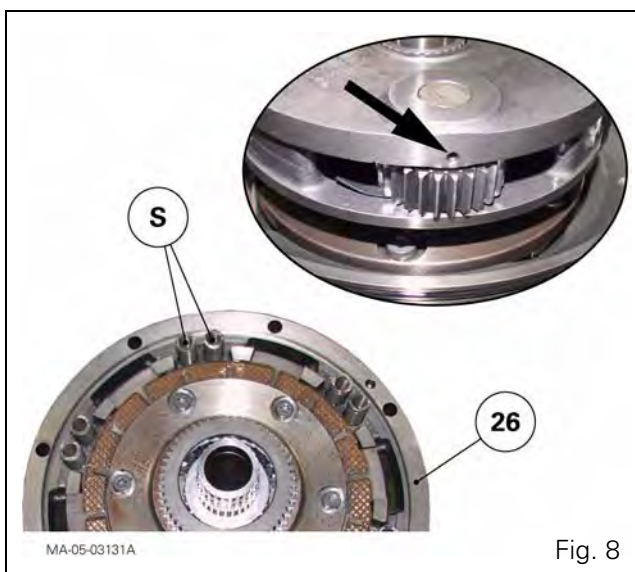

Fig. 8
23. Align the lubricating port (arrow) with a tooth on each planet gear (Fig. 8).
25. Check for the presence of return springs (S Fig. 8) in the cover (26).